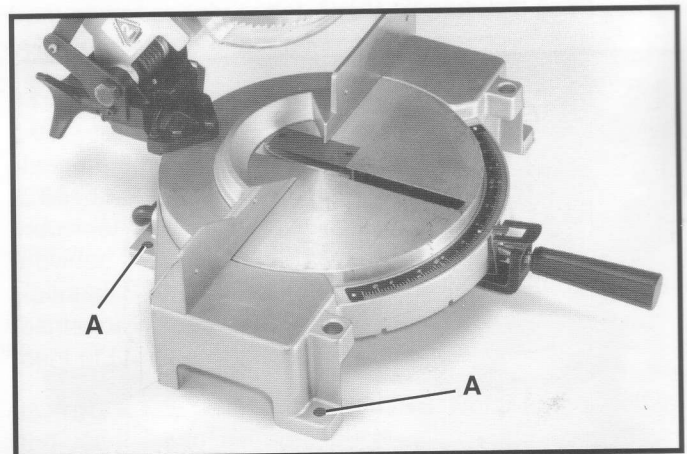

Fig. 9
Before operating your compound miter saw, make sure it is firmly mounted to a workbench or other supporting surface. Four holes are provided, two of which are shown at (A) Fig. 9, for fastening the saw to a supporting surface.